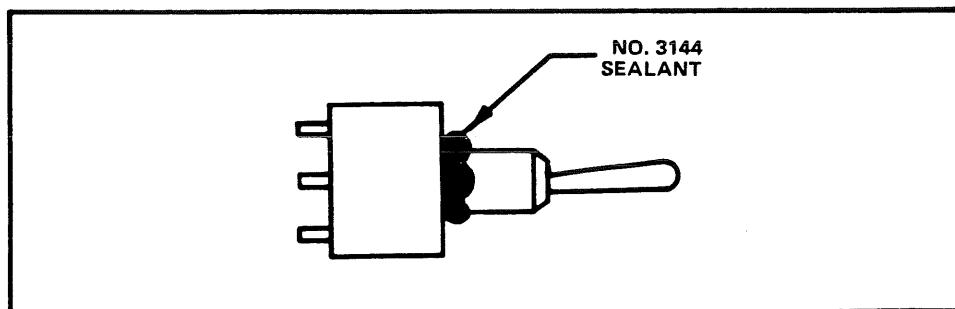

Figure 19. Application of sealant to RECORD toggle-switch bushing.
STEP 21. Install the Record control (see Figures 19, 20, and 21)
- (1) 1502 TPN 260-1727-00, MPL Item 2-20.
- (2) 1503 TPN 260-1727-00, MPL Item 2-23.
- (1) Form a bead of No. 3144 sealant around the bushing/switch body interface as shown in Figure 19.